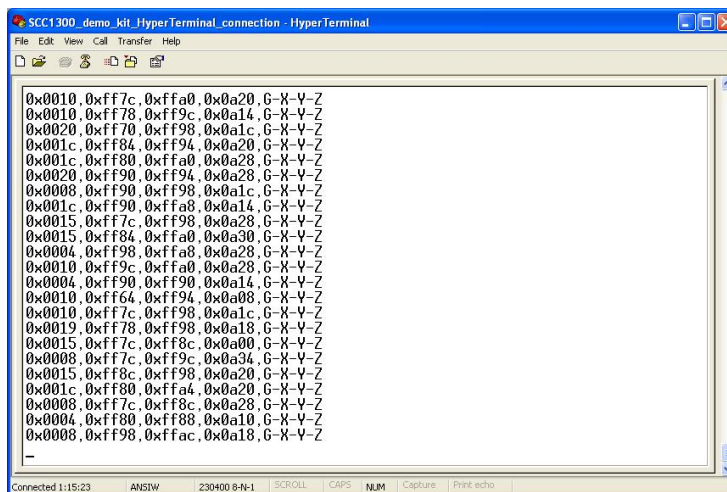

Figure 10. SCC1300 demo output during data logging.
7. The text file is a macro that runs in an endless loop. The macro sends angular rate and 3-axis acceleration data in hex format to HyperTerminal (see Figure 10). Example of data format: